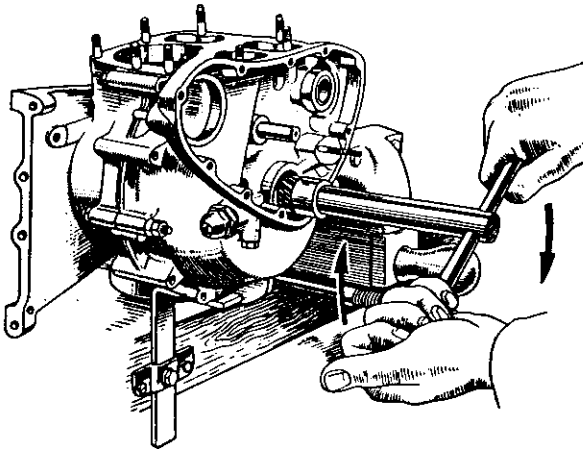

Fig. 10. To Line Ream the Timing Side Main Bearing.
- (3) To replace the white metal bearing, ensure the bearing is correctly lined up before pressing, and that the tool used for pressing is a perfect fit, otherwise the bearing will be damaged.
- (4) To line ream the white metal bearing, bolt up the two halves of the crankcase firmly and line ream as shown in Fig. 10. Only a very slight amount of metal will be removed, as the bearings are machined to size before fitting.
- (5) To remove the camshaft bush (timing side), heat (100°C.) the crankcase around the bush housing. Press or drift the bush out from the gear side, using a suitably shouldered tool.
- (6) To replace the camshaft bush (timing side), the new bush should be pressed into the housing while the case is still hot after the removal of the worn bush. Ensure that the oil hole in the bush is lined up correctly with the oil way in the housing.
- (7) To remove the camshaft bush (drive side), a thread should be tapped into the bush before the housing is heated. When this is done, re-insert the tap, hold the squared end in the vice and gently tap the case away from the bush with a hide hammer.
- (8) To replace the camshaft bush (drive side), the bush should be pressed in while the crankcase is hot. Check that the oil hole in the bush coincides with the oilway in the housing.
- (9) The phosphor bronze camshaft bushes are machined to size before pressing in, only